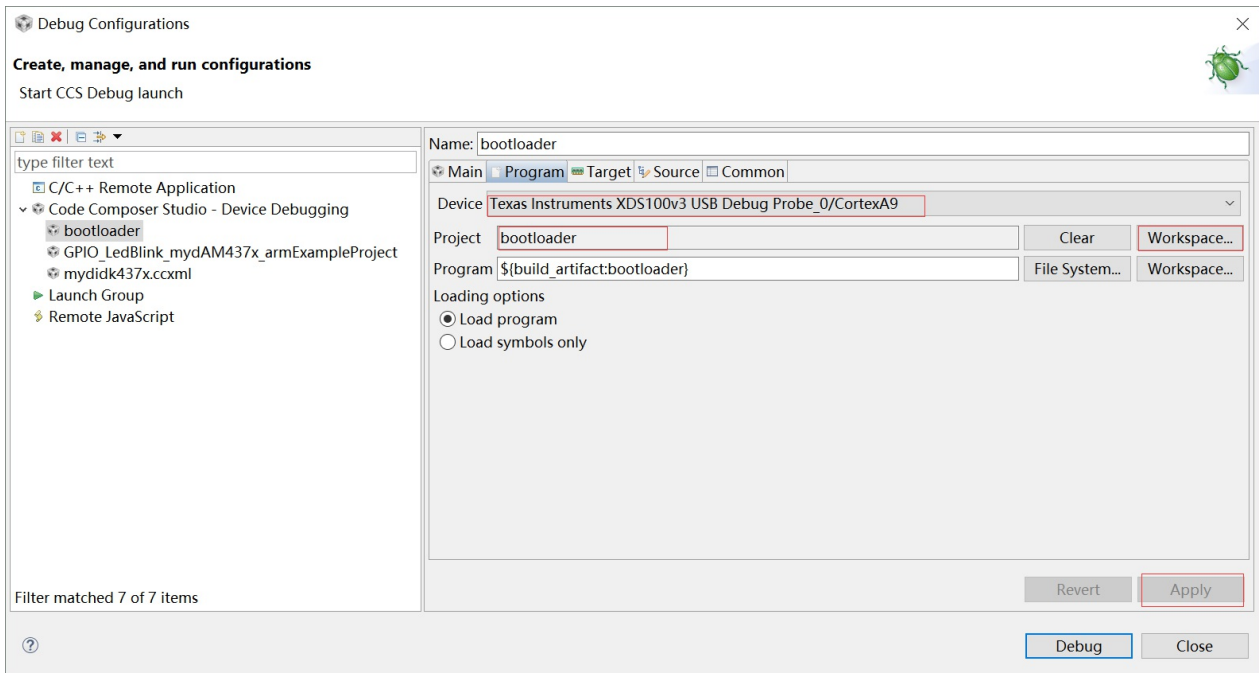

Figure 3-2-3 Debug Configurations Settings-2 of Bootloader
3. Name the configuration to `bootloader`, and set the parameters as shown in figure 3-2-3 and figure 3-2-4 below